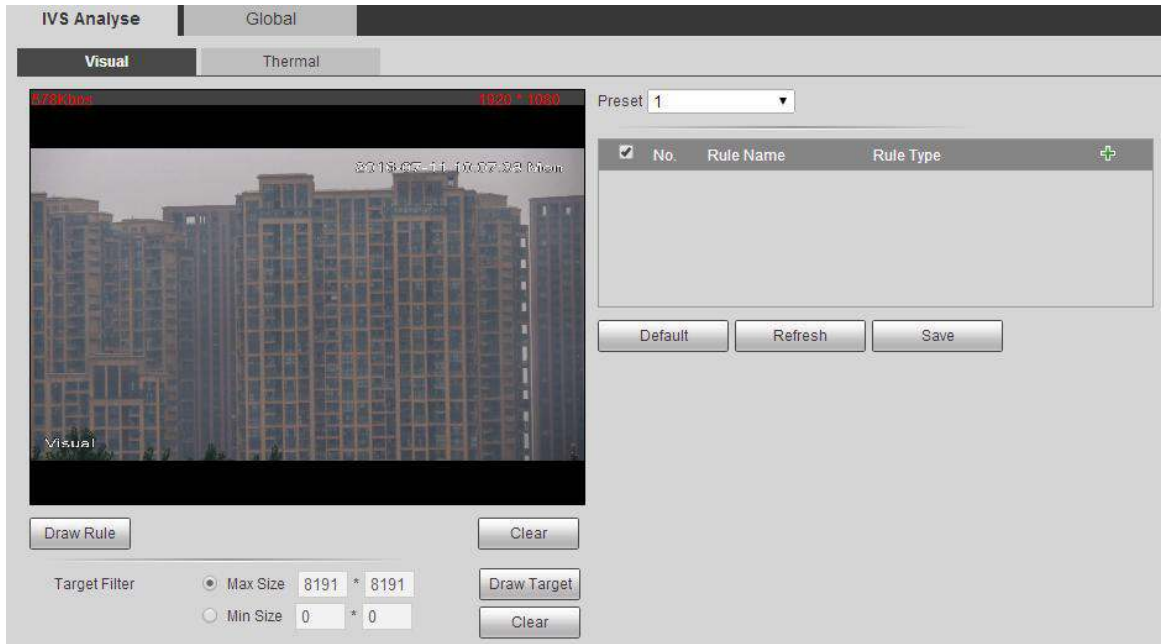

Figure 6-45
- Select "Setup > Smart Thermal > IVS Analyse" and the system will display the interface of "IVS Analyse", which is shown in Figure 6-45.
- Select "Setup > Event > IVS Analyse", the system will display the interface of "IVS Analyse", which is shown in Figure 6-45.